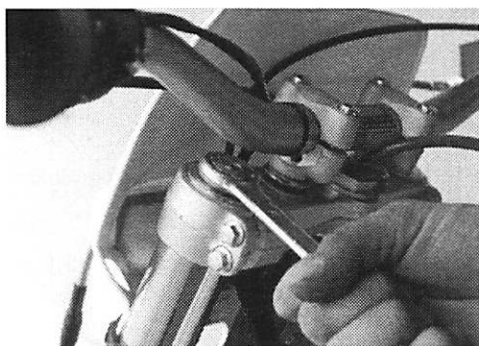

Figure 5.5
4. Loosen both fork caps with a 24 mm wrench. (Figure 5.5)